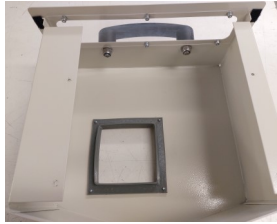

Figure 4
2. Fit the rubber seal over the 4 studs (shown in figure 4). It will not need to fix it down using the nuts.